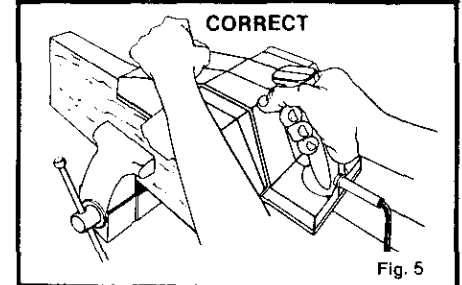

Fig. 5
**ALWAYS** keep control of your planer. It makes cutting easier and safer. To help keep control, always support your work so the cut will be on your right. Clamp your work so it will not move during the cut. See Figure 5. The work moving during a cut could result in the loss of control of your planer possibly causing serious injury.